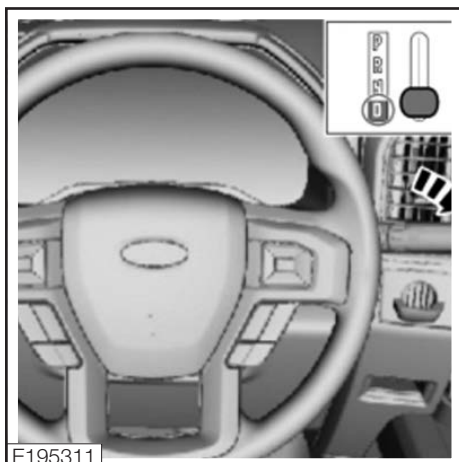

Figure 99
4. Verify the selector lever is in D (Fig. 99).